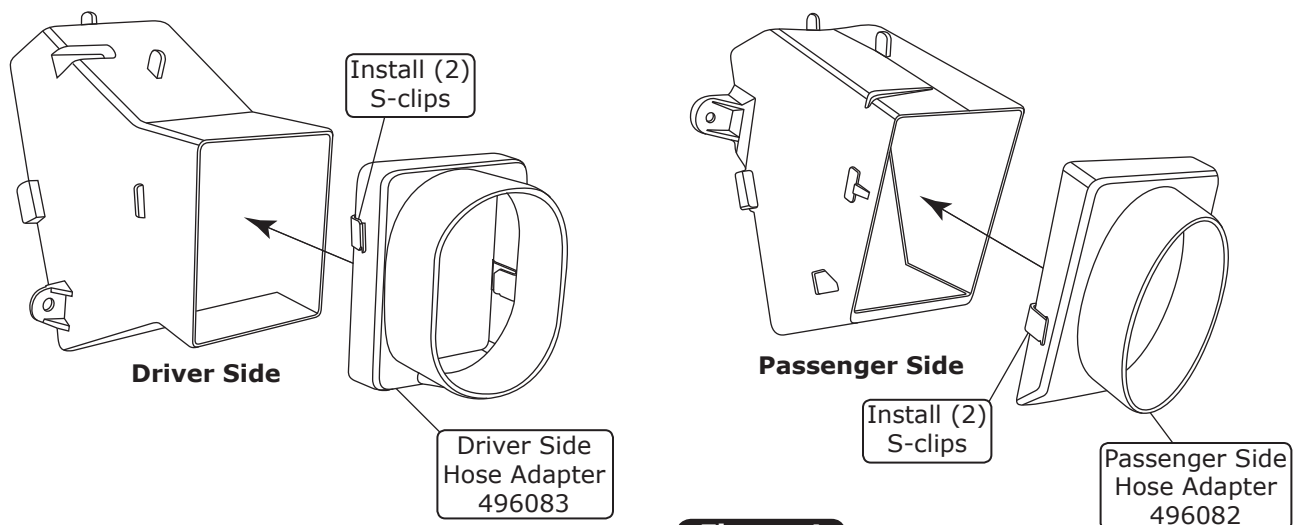

Figure 4
1. Install (2) S-clips onto the driver and passenger side hose adapters as shown in Figure 4, below.
2. Install the driver and passenger side hose adapters onto the OEM louvers (See Figure 4, below).